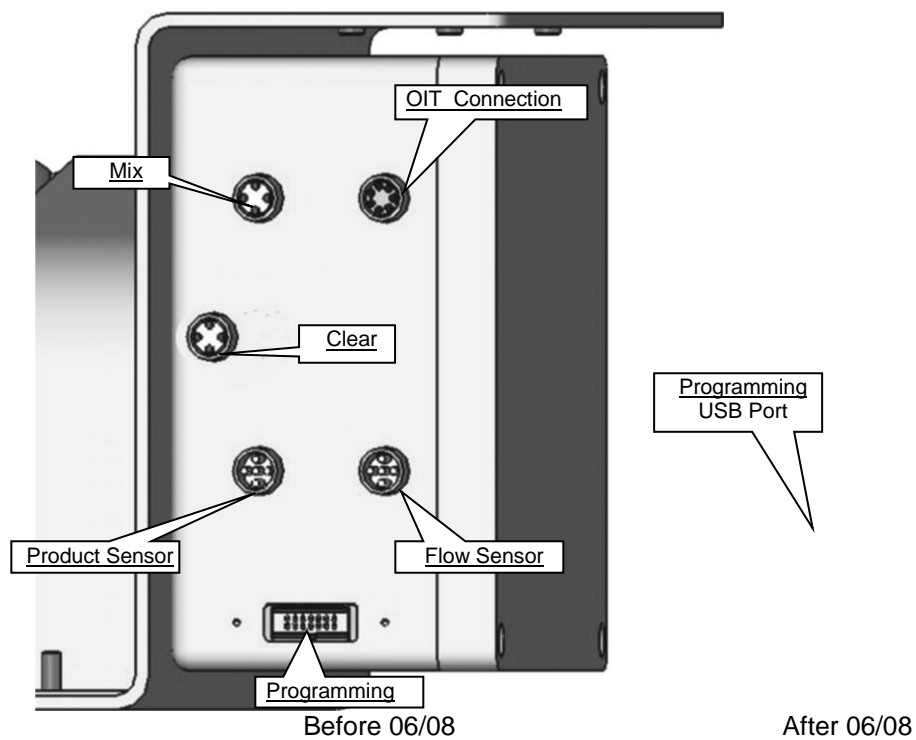

Figure 4 Motor Driver Assembly - Cable connectors
- Once the OIT assembly is mounted, connect the control cable (8 pin) from the control box terminal to the back of the OIT assembly (see Figure 4).
- Labels on the Control box identify each cable connection (see Figure 4).
- Molded cables are supplied, which connects from the Conductivity Probe to the connectors on the Pump / Motor Driver Assembly (see Figure 4).
A molded cable is supplied, which connects from the Flow sensor to the connector on the Pump / Motor Driver Assembly (see Figure 4).